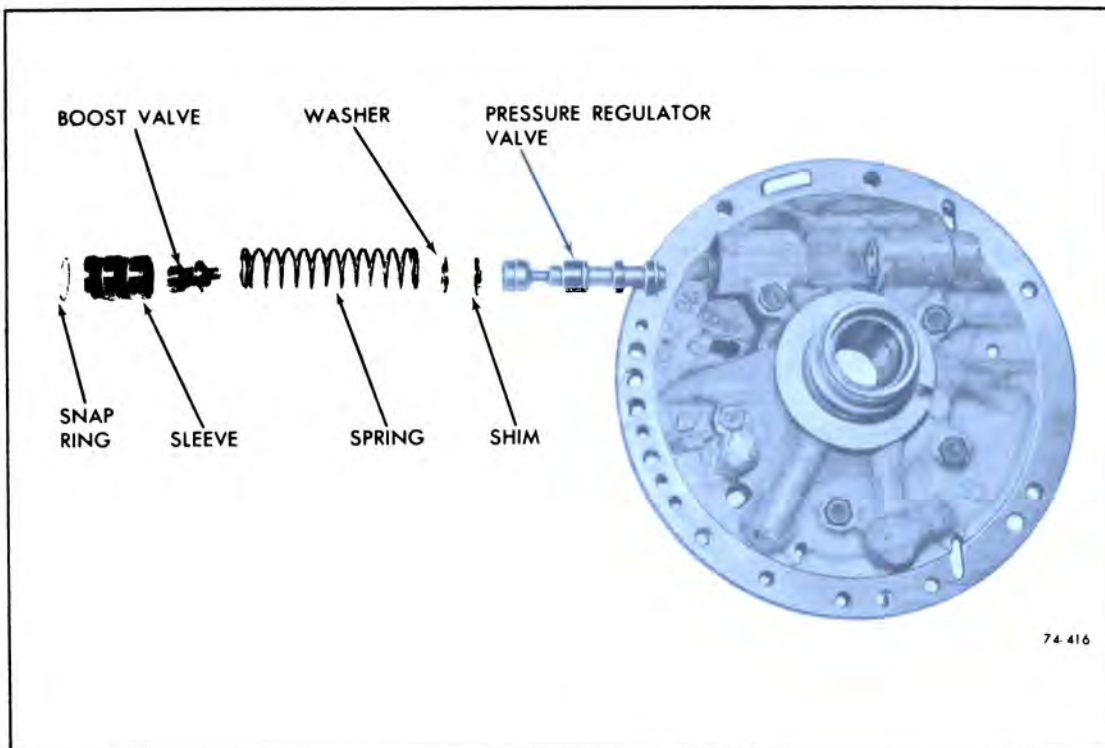

Figure 74-185
11. After retaining snap ring has been removed, remove boost valve sleeve, valve, spring, washer, and pressure regulator valve. See Figure 74-185.
5. Assemble pressure regulator valve, shim, washer, spring, boost valve, and sleeve. See Figure 74-185.